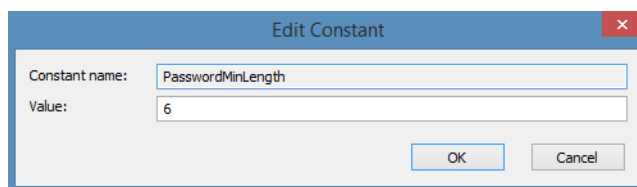

Figure 4-73: Edit Constant Dialog Box
2. Click **Edit Constant** to display the Edit Constant dialog box (Figure 4-73).